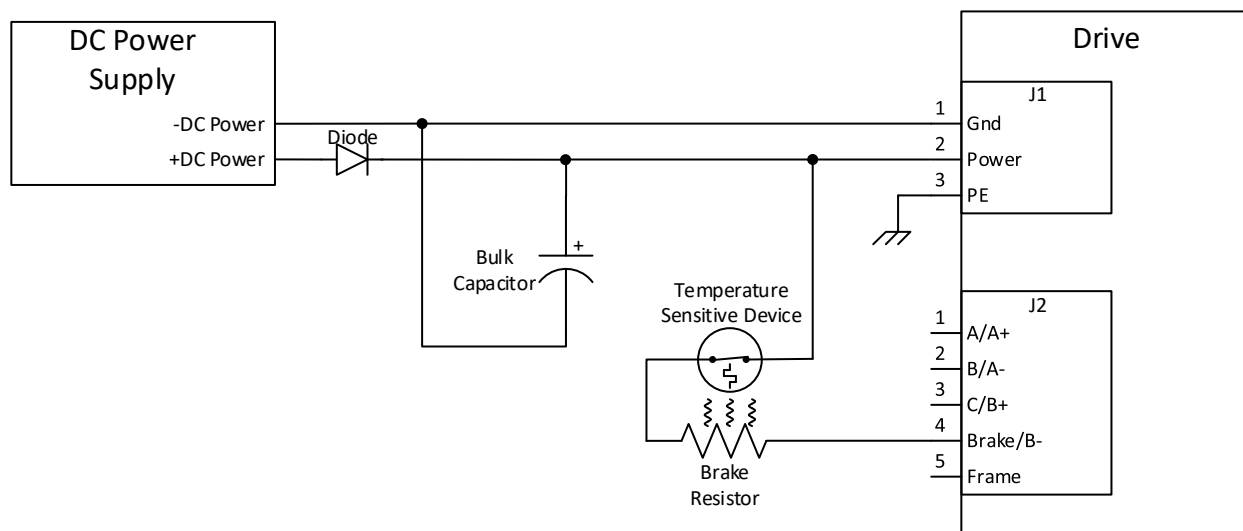

Figure 35: External brake resistor and bulk capacitor connection to the drive
The braking resistor and bulk capacitor wiring is shown in Figure 35.
*Temperature Sensitive Device Connection:* The user supplied temperature sensitive device is connected in series with the brake resistor as shown in Figure 35. Generally, the temperature sensitive device should be mounted in contact with the surface of the brake resistor or very close to it for an effective operation.
*Optional Diode connection:* Adding a diode between the positive terminal of the power supply and J1 pin 2 of the drive as shown in Figure 35 will protect the power supply from any back fed overvoltage while braking. The diode is sized by the application's maximum reverse voltage and forward current.